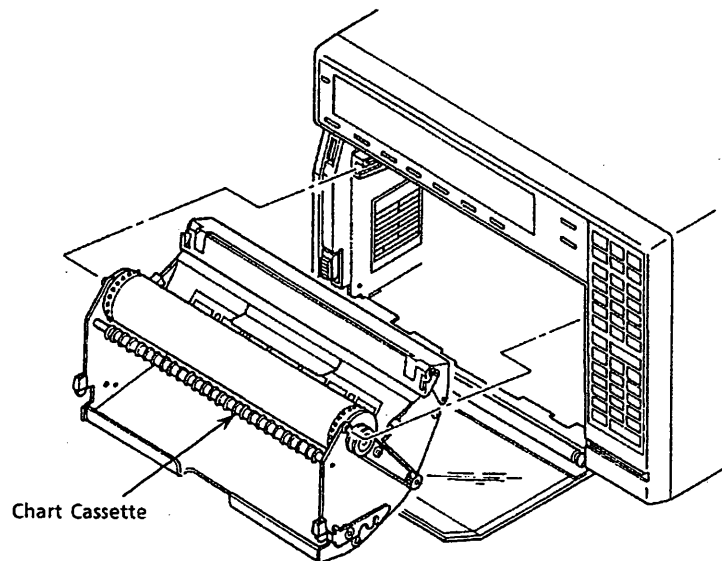

Figure 6.1.9
- 1) Open the front door and remove the chart cassette (Figure 6.1.9).
- 3) Tilt the ribbon cassette holder in the direction of the arrow (Figure 6.1.9).